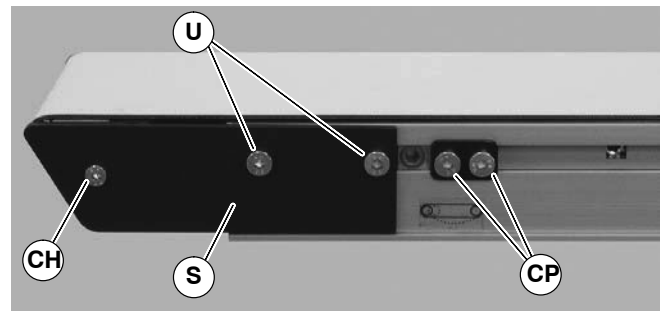

Figure 53
2. On one side of conveyor, use a 3 mm and 4 mm hex-key wrench to remove head plate fastening screws (CH & U of Figure 53) and remove head plate (S).
4. After replacing bearings, re-install head plate (S of Figure 53). Use a 3 mm hex-key wrench to tighten one (1) fastening screw (CH) to 30 in-lb (3.4 Nm). Leave two (2) fastening screws (U) loose for belt tensioning.